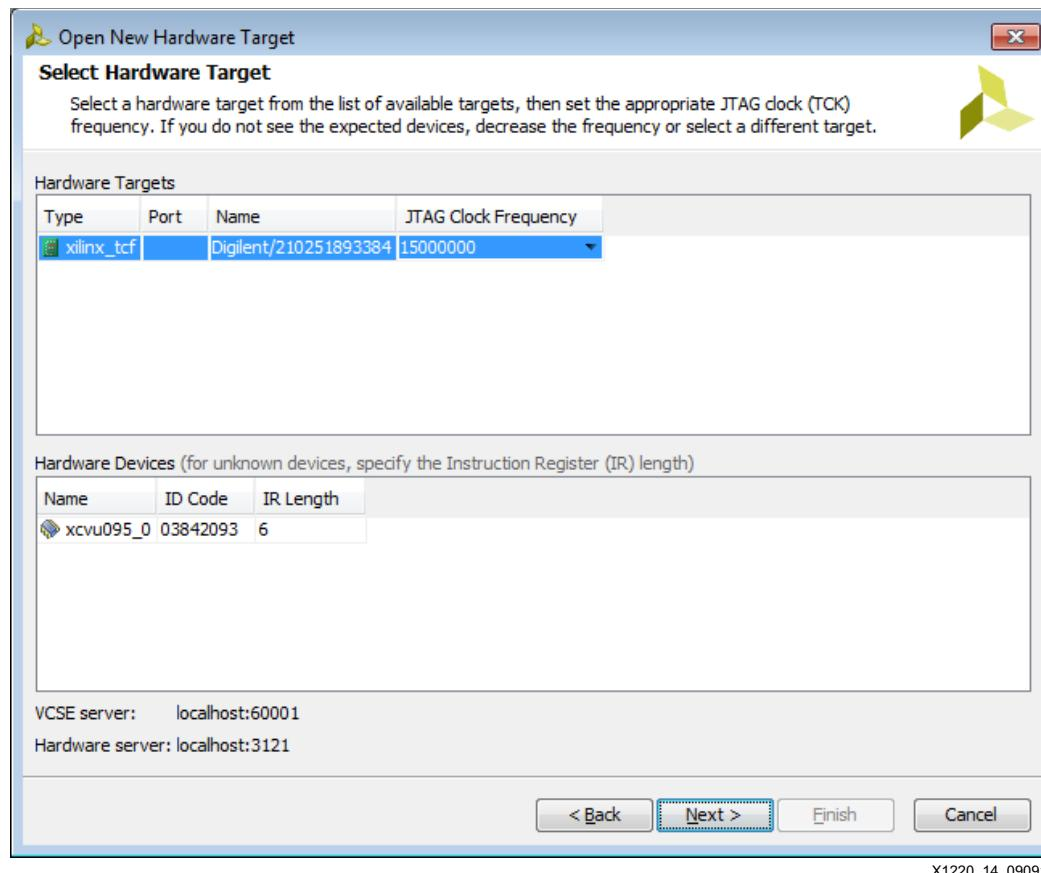

Figure 14: Open Hardware Target Wizard JTAG Clock Frequency Selection Window
3. The Open Hardware Target Wizard window appears. Follow its guidance to select the XCVU095 FPGA. Select the frequency for the JTAG connection shown in Figure 14. For this example, the default frequency of 15 MHz is used. Click **Next** until you finish the wizard.